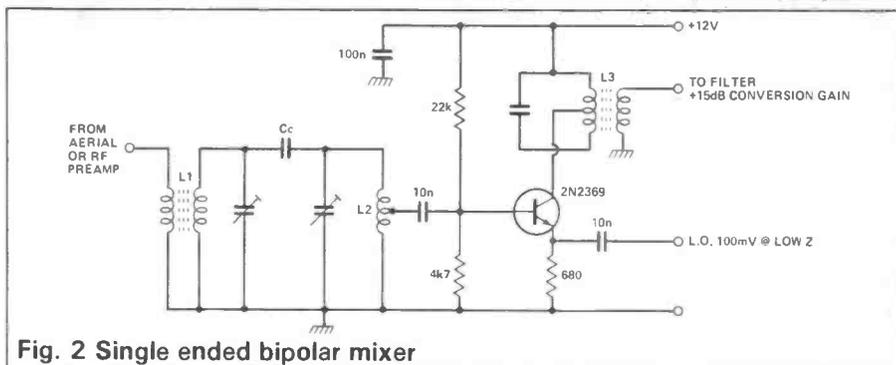

Fig. 2 Single ended bipolar mixer
**Bipolar mixer.** The generic type is shown in Fig.2. It offers the highest conversion gain yet requires only a very modest supply current. The LO requirements are also among the lowest of all mixer types. However, the intercept performance is inferior to every other type of mixer and only becomes moderately good when the mixer transistor bias current is increased from around 2 to 20mA measured at the collector. The conversion gain is relatively independent of collector voltage, although this voltage does have a major bearing on strong handling (as it does with all other types of active mixer; use the highest supply voltage possible.)
It should be noted that the conversion gain figures are relative for Fig.2. and the successive circuits. The realised gain may be much higher with an active mixer circuit — although this will be at the expense of intermod performance. I have attempted an 'off the cuff' normalisation with the figures that are quoted.